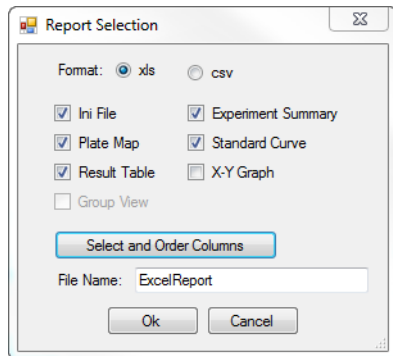

Figure 4-41: Report Selection Dialog Box
1. In the Report Selection dialog box (Figure 4-41), click **Save Report > Select and Order Columns > OK**.
3. In the Report Selection dialog box (Figure 4-41), click **OK**. The Results tab will now display the selected columns and the desired column order.